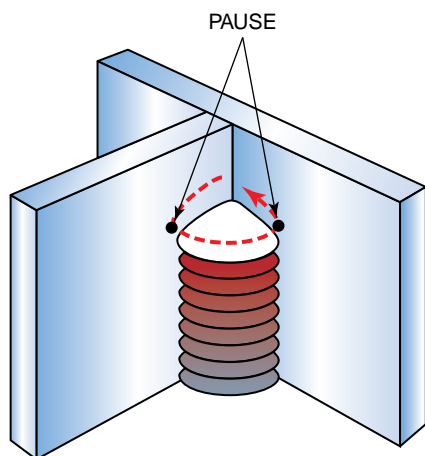

FIGURE 9-85 Pausing just above the undercut will fill it. This action also causes undercut, but that will be filled on the next cycle.
and fill it, **Figure 9-85**. Cool, chip, and inspect each weld for uniformity and defects. Repeat the welds as necessary with all three (F) groups of electrodes until you can consistently make welds that are free of defects. Turn off the welding machine and clean up your work area when you are finished welding.